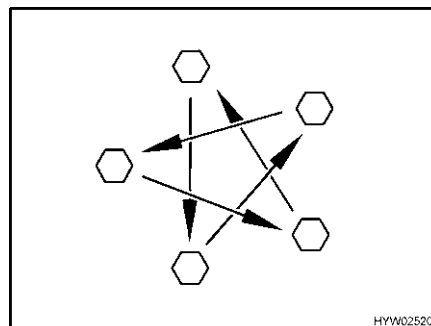

Fig. 227 Tighten the wheel nuts or wheel bolts cross-wise
- Check regularly that the wheel nuts or wheel bolts are firmly seated. Re-tighten the wheel nuts or wheel bolts of a changed wheel cross-wise (Fig. 227) after 50 km (30 miles).
- ▷ Tighten the wheel nuts or wheel bolts cross-wise (Fig. 227).